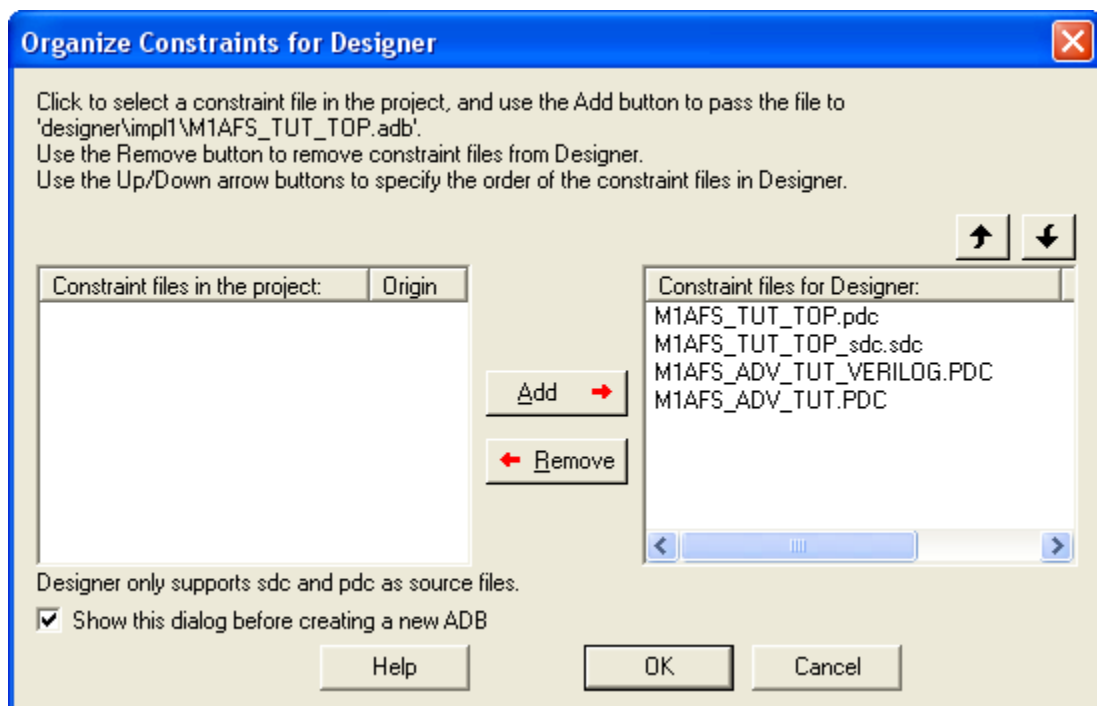

Figure 4-4 • Organize Constraints for Designer Window
2. The Organize Constraint dialog box comes up, as shown in Figure 4-4.